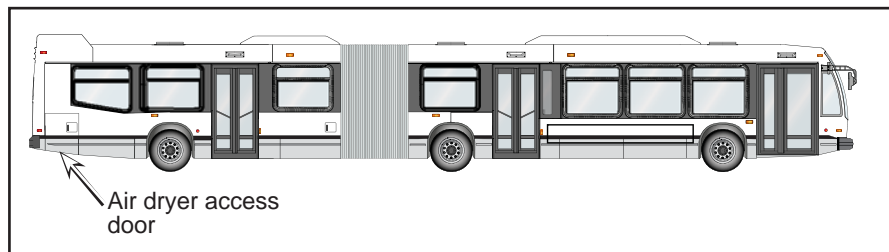

Figure 1 - Air Dryer Access Door Location
- 1.2. Open the air dryer access door. See Figure 1.